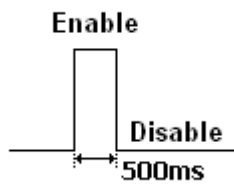
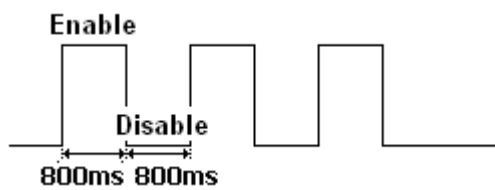
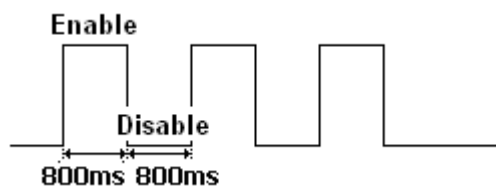

Figure 2: Wave Shape 2
Figure 3: Wave Shape 3
Figure 4: Wave Shape 4
- ✧ <Duration>: Please refer to **Figure 1, Figure 2, Figure 3** and **Figure 4**. Unit: 100ms.
- ✧ <Toggle Times>: Please refer to **Figure 1, Figure 2, Figure 3** and **Figure 4**.